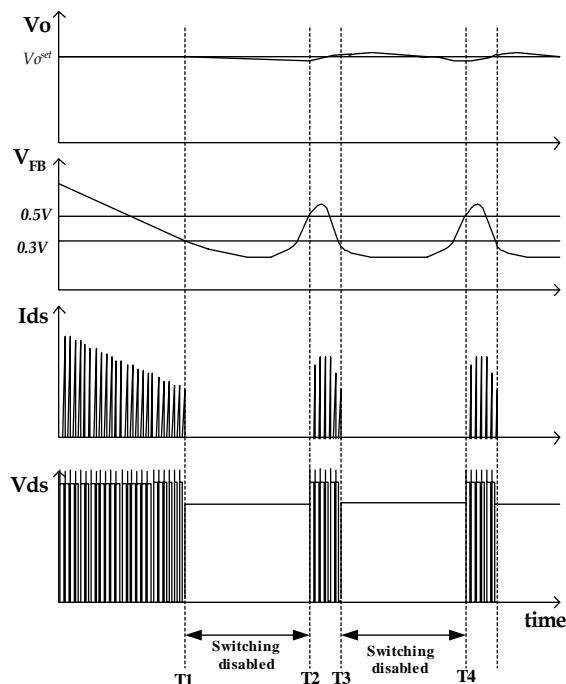

Figure 22. Waveforms of Burst Operation
**6. Burst Operation:** To minimize power dissipation in standby mode, the FSCM0565R enters into burst mode operation at light load condition. As the load decreases, the feedback voltage decreases. As shown in Figure 22, the device automatically enters into burst mode when the feedback voltage drops below  $V_{BL}$  (300mV). At this point switching stops and the output voltages start to drop at a rate dependent on standby current load. This causes the feedback